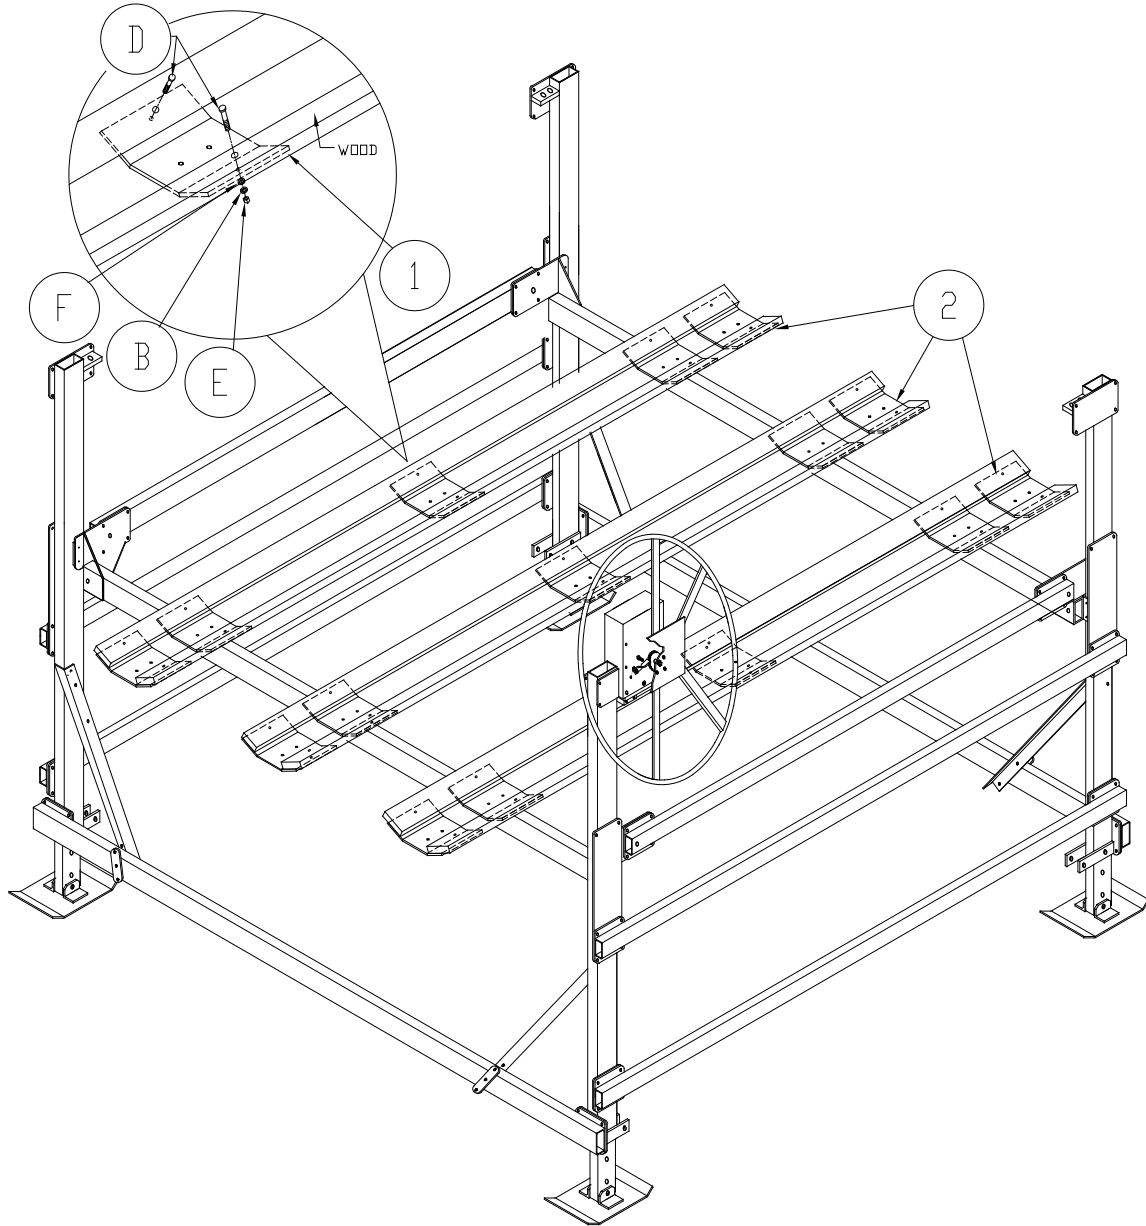

Figure 2-4.
1. Refer to Figure 2-4. Position the nine three-hole cradle support plates (1) onto the underside of the wood, three on each pontoon cradle. One each end and one at approximately center.
2. Mark the location of the two holes for each support plate (1) and drill the necessary holes using the 7/16" drill bit. Next drill the optional 1/4" deep countersink.
3. Attach each support plate (1) to the underside of the two pieces of wood using: two carriage bolts (D), two flat washers (F), two split-lock washers (B), and two hex nuts (E).